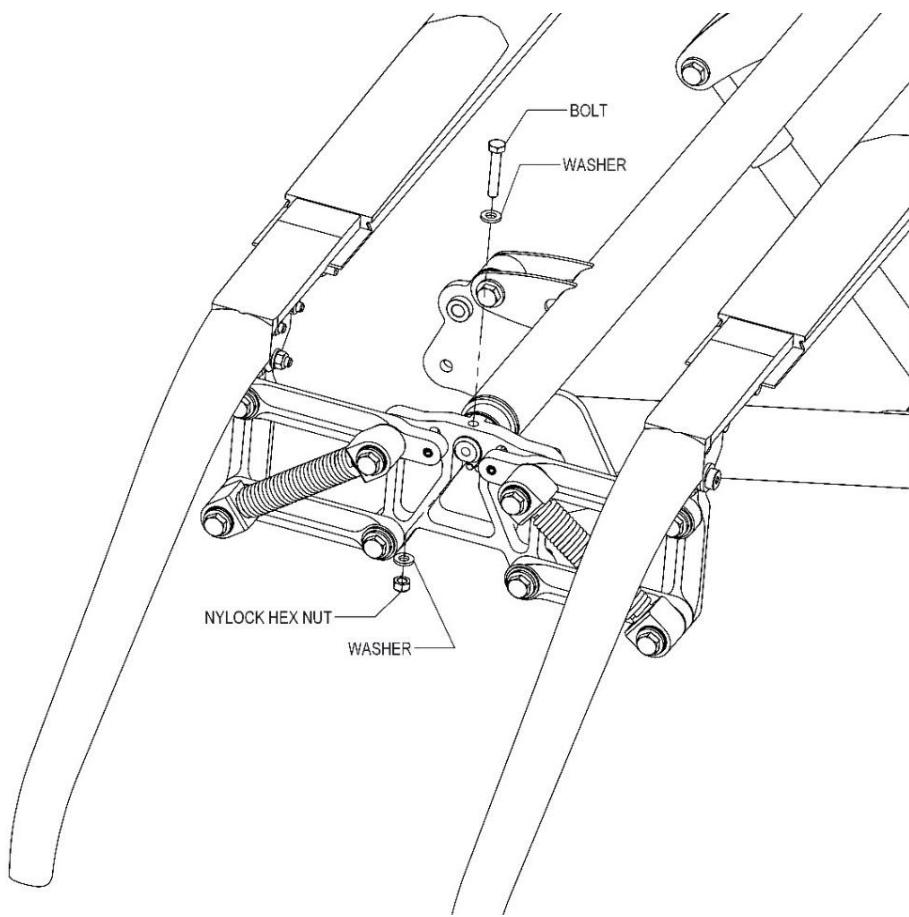

Figure 7-3: Collector Head
2. Remove the nylock hex nut, bolt, and washers. See Figure 7-3. Discard the hex nuts. These are nylock nuts that must be replaced.